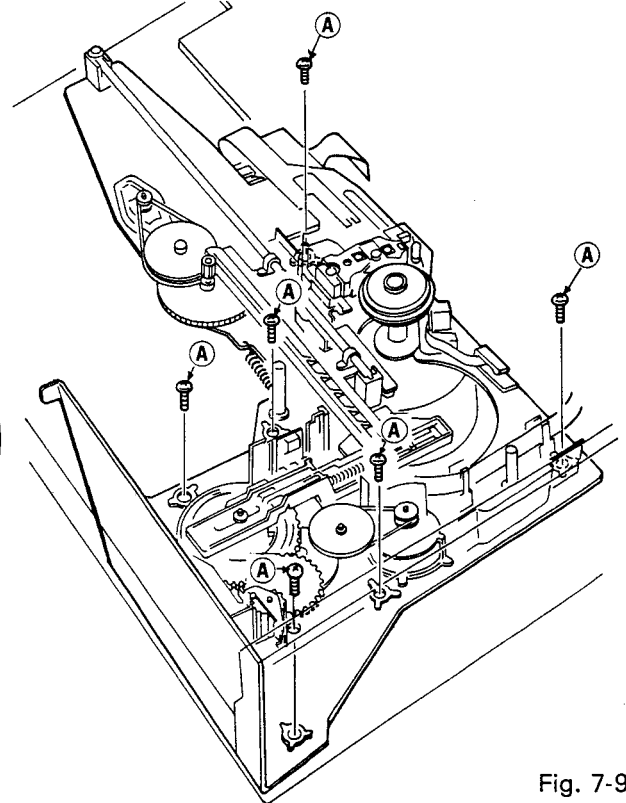

Fig. 7-9
**7.8 REMOVING THE MECHANISM SECTION (Fig. 7-9)**